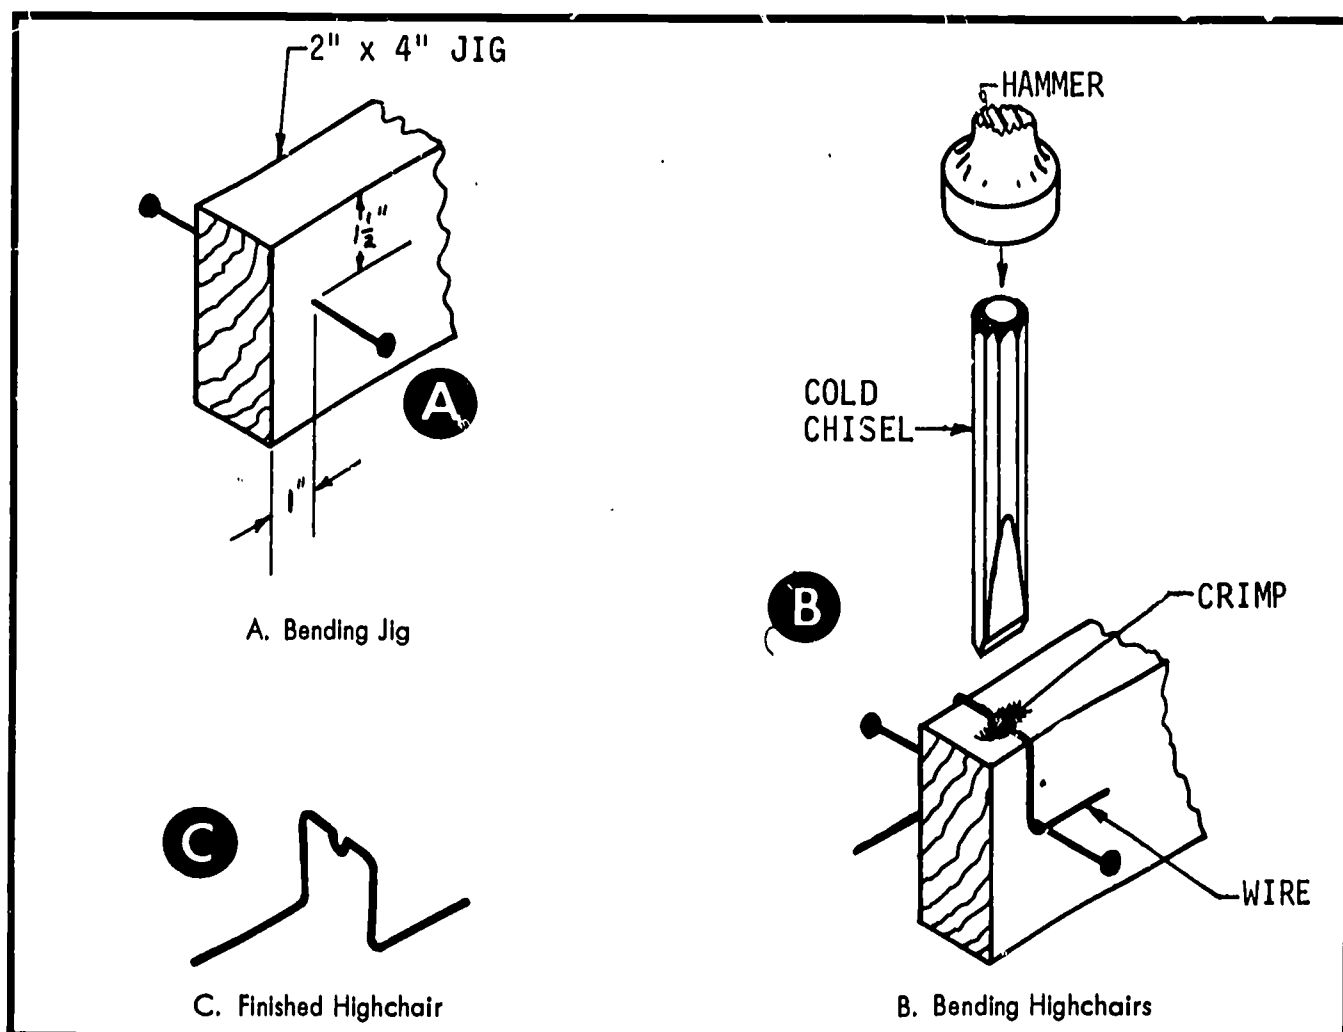

Fig. 39-3. Making Highchairs
5. Study Fig. 39-3, Making Highchairs.
6. Make the bending jig. See "A" in Fig. 39-3.
7. Bend each piece of 10' wire into highchairs. See "B" in Fig. 39-3. Crimp the center of the highchair by striking it with a cold chisel and hammer. See "B" in Fig. 39-3.
8. Your finished highchair should look like "C" in Fig. 39-3.